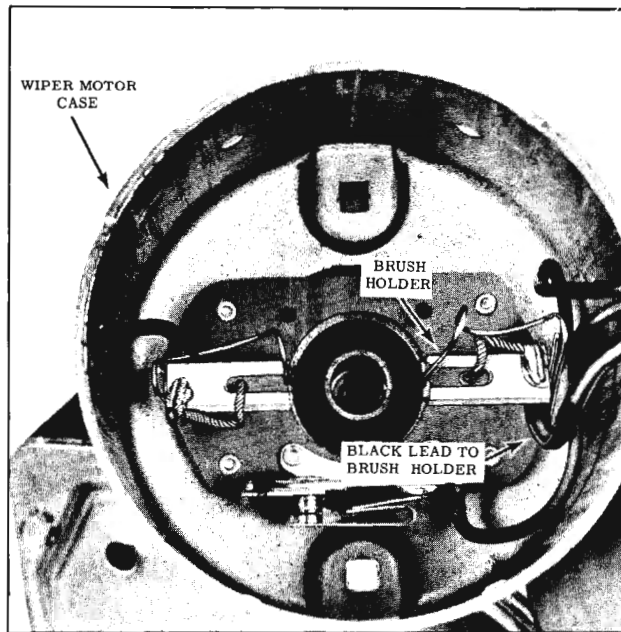

Fig. 14-80 Field Coil Connections in Case
5. Unsolder black solid wire from brush holder in case as shown in Fig. 14-80.